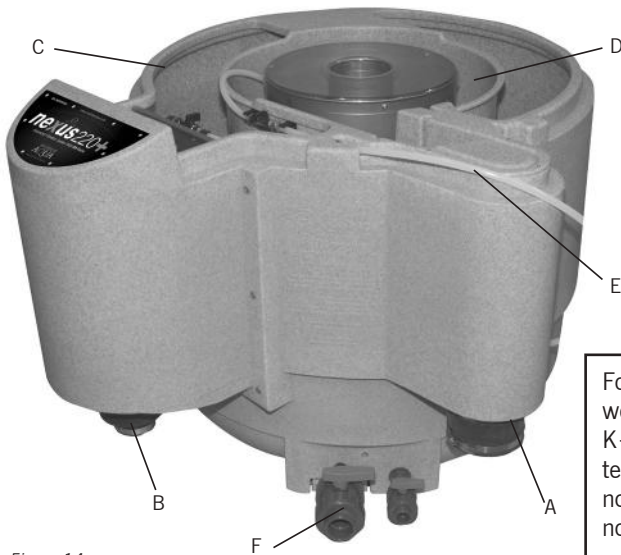

Figure 14.
1. Connect the pipework from your pond to the EazyConnector on the Nexus Inlet (A).
2. Connect your water pump to the 4"- 1½" EazyConnector (B) on the outlet using suitable pipe work. A valve should be positioned between the pump and the Nexus, to isolate the Nexus during cleaning.
3. Pour the 50L K+Media bag into the outside chamber (C) of the Nexus (Figure 14).
4. Connect your air pump to the Nexus air inlet (E).
6. Connect the waste valves (F) to your waste outlet.